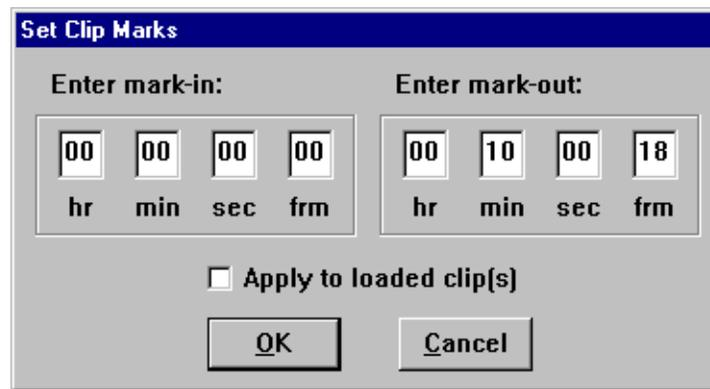

Figure 75. Set Clip Marks dialog box
2. Choose **Controller | Clip Length**. The Set Clip Marks dialog box appears (Figure 75).